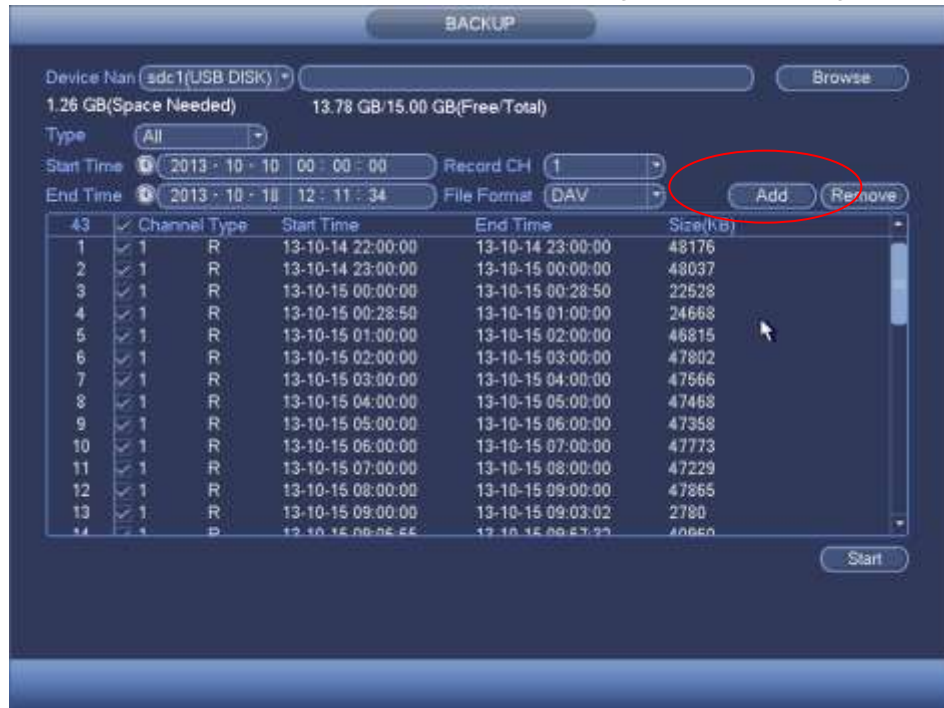

Figure 4-230
- d) Click add button, system begins search. All matched files are listed below. System automatically calculates the capacity needed and remained. See Figure 4-230.